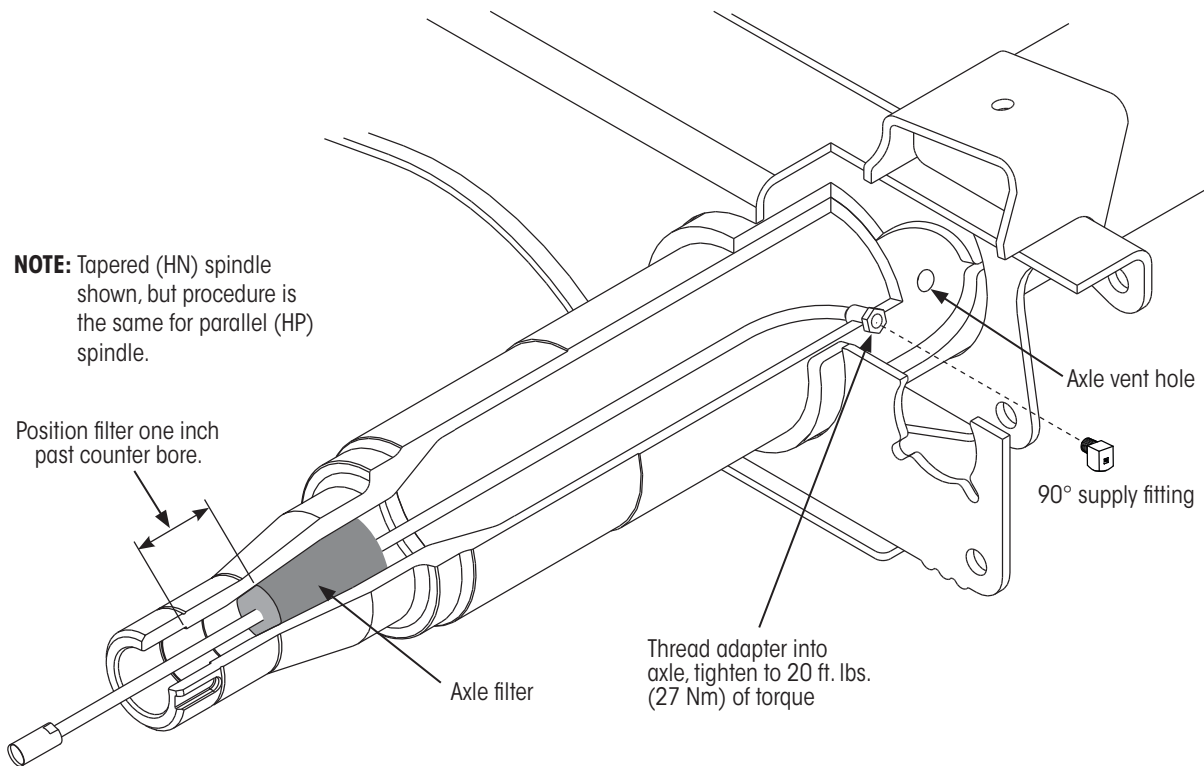

Figure 11: Installed position of axle hose assembly
Refer to Figure 11 through Figure 42 for a complete description of air hoses and fittings.
4. **Tighten** fitting to 20 ft. lbs. (27 Nm) of torque (Figure 11).
6. **Push** axle filter into spindle cavity (Figure 11).
Repeat **Step 1** through **Step 7** on each axle and wheel-end. For axle vent installation, (Figure 11), refer to AXLE VENT INSTALLATION on page 20.
1. Thread 90° supply fitting into each axle hose as shown in Figure 11.